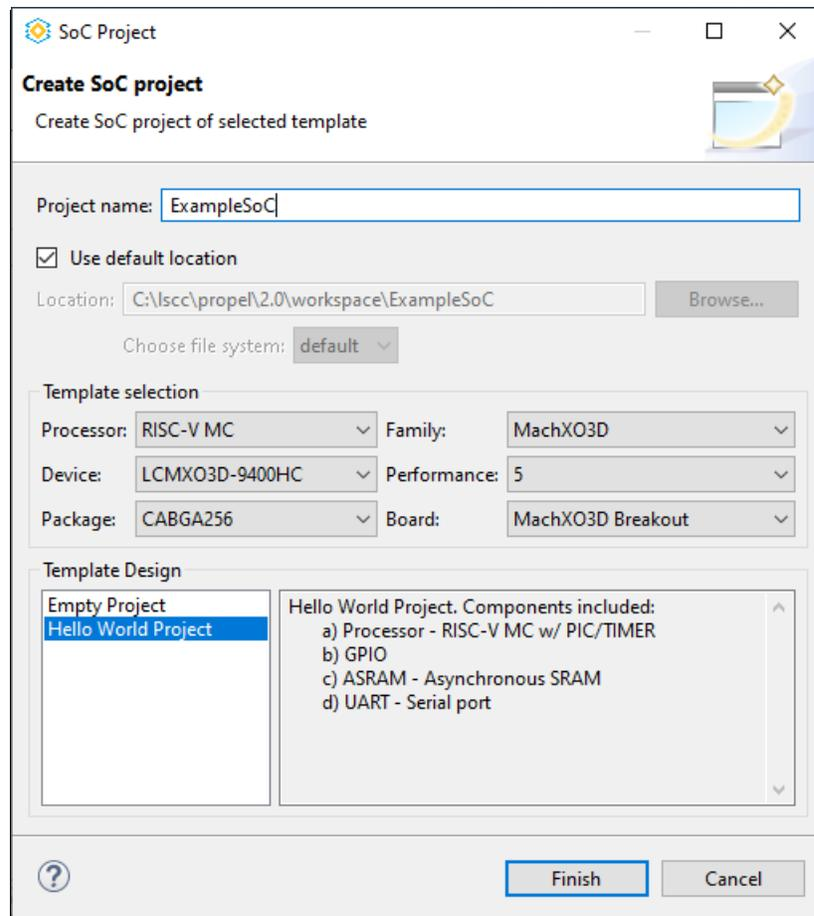

Figure 3.7. Create SoC Project Wizard
1. In Lattice Propel, choose **File > New >  Lattice SoC Design Project**. The **Create SoC project** wizard opens (Figure 3.7).